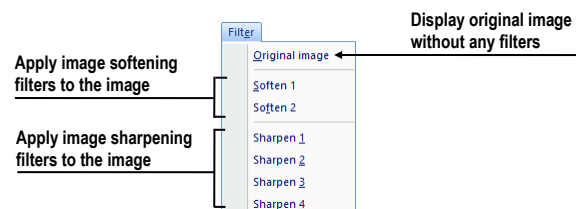

Figure 36 – Filter menu
- **Filter** – the filters for image softening or sharpening in the current view (see Figure 36).